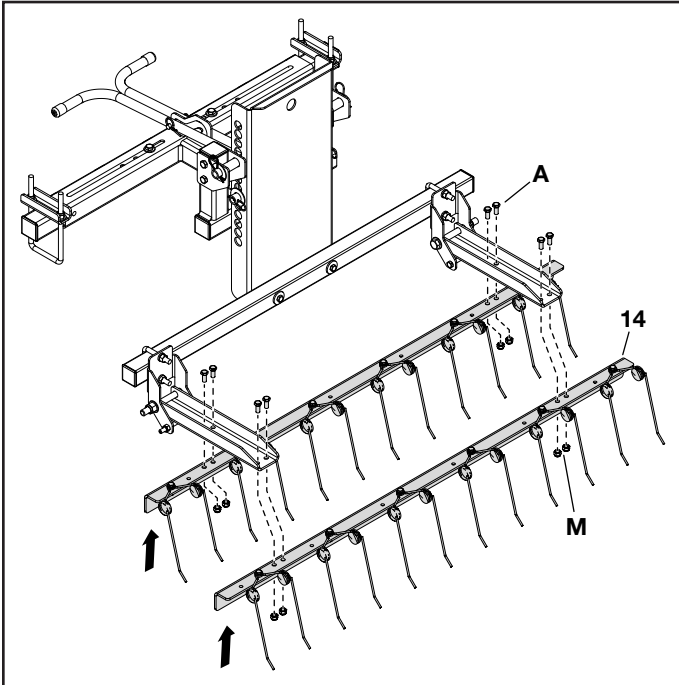

FIGURE 12
STEP 12: (SEE FIGURE 12)
- Attach one tine mount bracket assembly (14) to the lift brackets (14) with four hex bolts (A).
- Secure the hex bolts with four Nylock nuts (M).
- Repeat for the other tine mount bracket assembly (14).